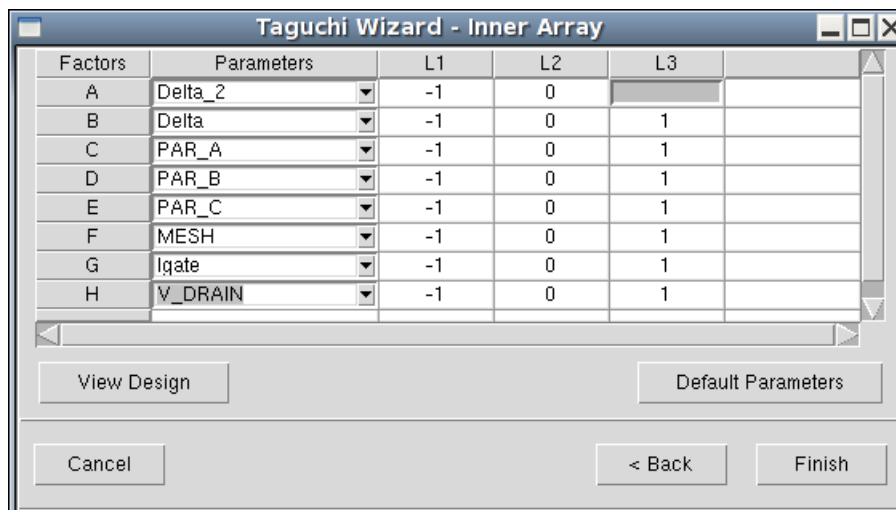

Figure 60 Multilevel With Noise - Step 2
Step 2 for the Multilevel With Noise designs (see Figure 60) contains entries to select parameter values for each level. In the columns L1 to Ln, you must set the values of the levels for the selected parameter.